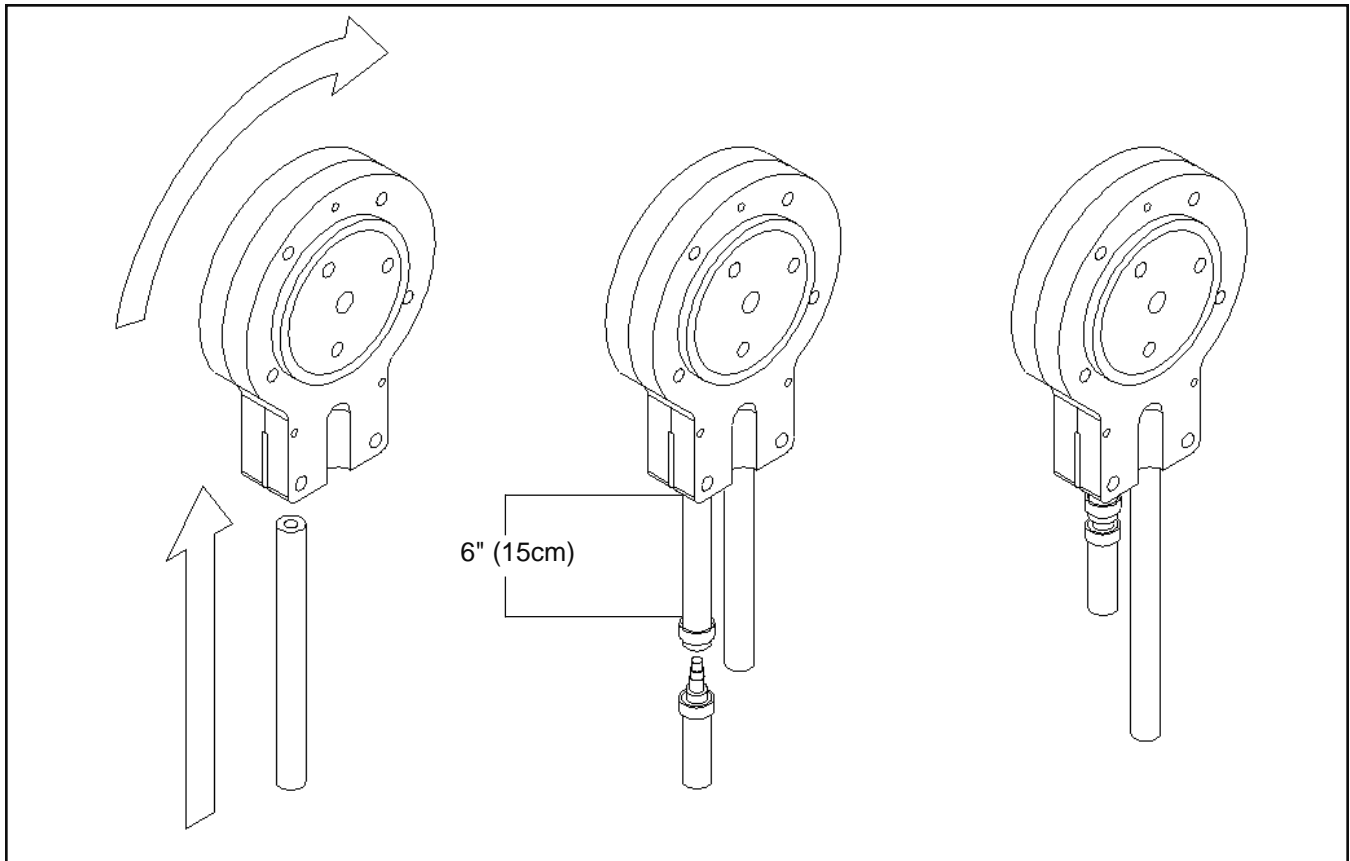

Figure 2-3 Mix Hose Installation
3. Connect elbow fitting to free end of tubing. Connect opposite end of elbow to 1/4" ID tan tubing on the left side of pump head. Secure with hose clamps (see Figure 2-3 and 2-4).